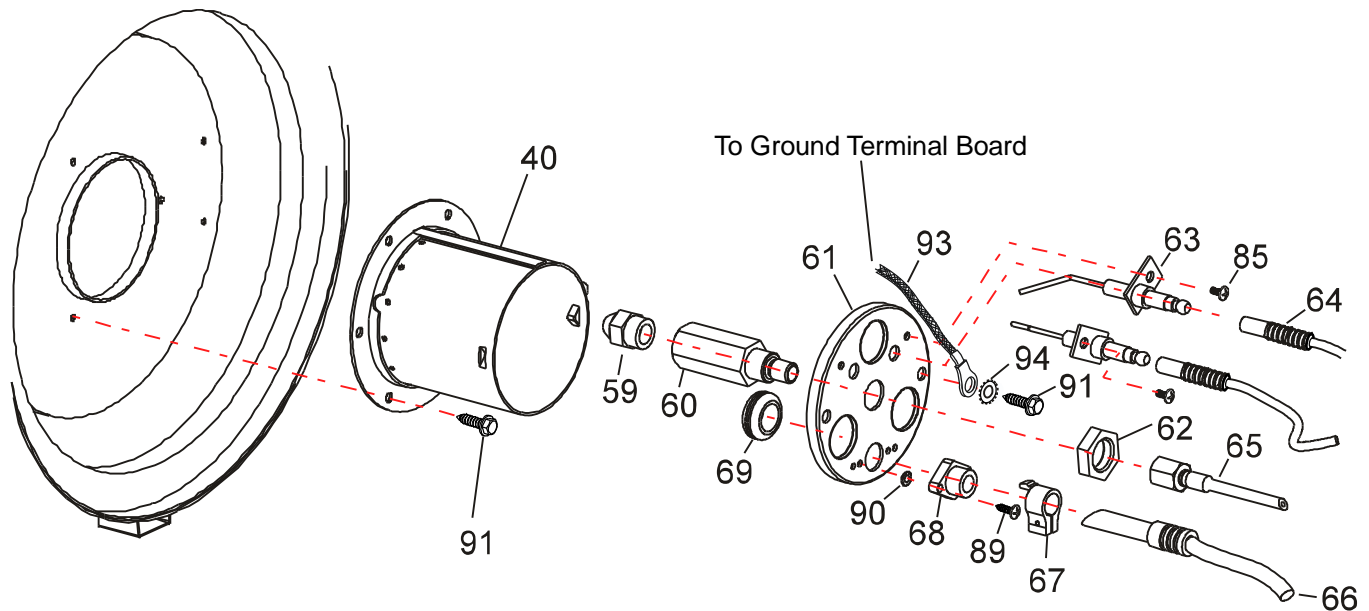

Figure 5-9 – Burner Head & Nozzle Assembly
3. Using an 8mm nut driver, remove the upper heat shield (5) by removing six screws (79) and two sheet metal screws (78); remove heat shield and set aside.
4. By pulling straight back, detach both ignition cables (64) from electrodes (63) (see Figure 5-9).
5. Using a Phillips head screwdriver loosen and remove two screws (85) and remove the electrodes (63).
6. Using an 8mm nut driver, loosen and remove two screws (91).
7. Remove the burner flange (61) from the combustion head (40).
1. Install electrodes (63) into the burner flange (61).
2. Using a Phillips head screwdriver install and tighten two sheet metal screws (85) to secure the electrodes.
4. Reinstall the burner flange (61) onto combustion blast tube. Install and tighten two screws (91).
5. Attach ignition cables (64) onto the electrodes (63) (see Figure 5-9).
6. Install heat shield (5) using an 8mm nut driver install and tighten six screws (79) and two sheet metal screws (78).
3. Using a 8mm nut driver, remove the upper heat shield (5) by removing six screws (79) and two sheet metal screws (78); remove heat shield and set aside.
4. Detach ignition cables (64) from electrodes (63) by pulling straight back (See Figure 5-9).
5. Remove two screws (81) securing control panel assembly (29). Pull assembly straight out and lay down exposing H.T Transformer (50).
6. Remove wire #5 (brown) and wire #6 (blue) from the large terminal block (47).
7. Remove the ground wire (green) from top of the small terminal block (46) coming from transformer (50).
8. Remove two screws (88) securing transformer (50) to control panel assembly (29) and set transformer (50) aside.